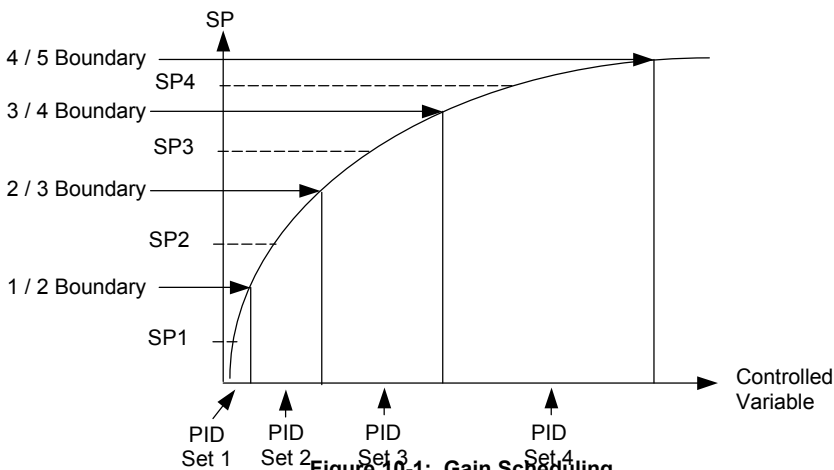

Figure 10-1: Gain Scheduling
9. Repeat the above for all PID sets. For each set, adjust the SP approximately midway between the two boundaries (Figure 10-1)
Cascade control uses a combination of two PID controllers, where the output of one (the master) provides the setpoint for the second (the slave). Cascade control was described in more detail in section 9.10. Figure 10.1 shows a cascade controller applied to the control of a furnace load.